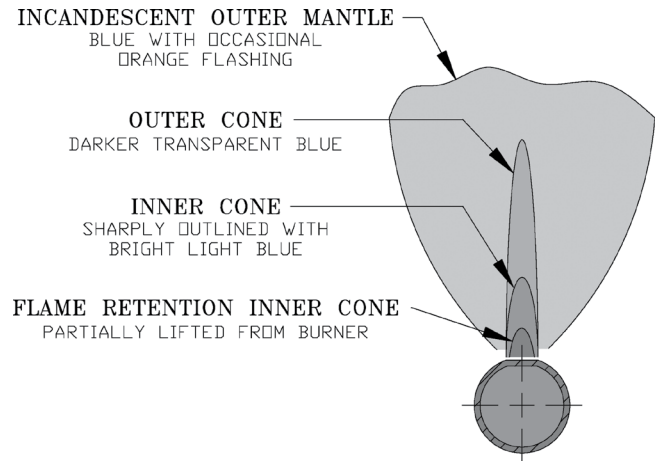

Figure 10.5: Main Burner Flame
- L. Check Main Burner Flame - See Figure 10.5. Flame should have a clearly defined inner cone with no yellow tipping. Orange-yellow streaks caused by dust should not be confused with true yellow tipping.